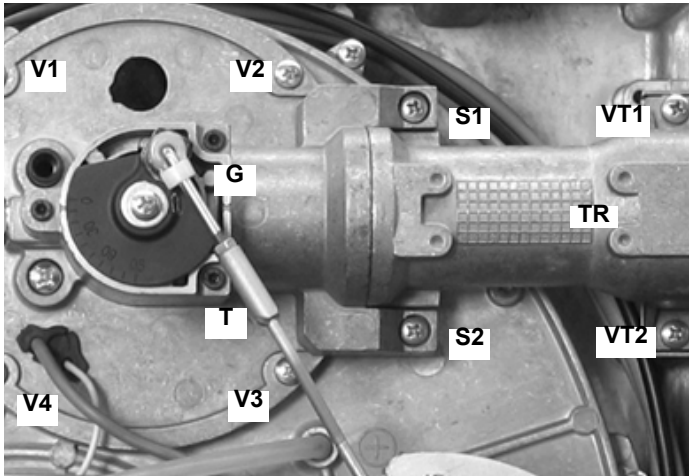
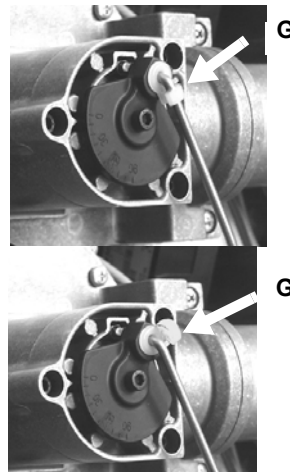
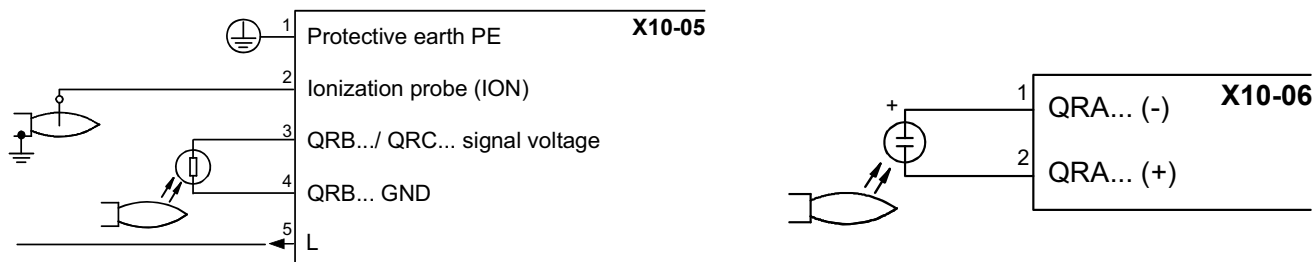

Fig. 46
Fig. 47
Fig. 51
- Check the ignition and detection electrodes, clean and adjust if necessary (see Fig. 47). In case of doubt, check the detection current according to the schemes in Fig. 51.
- 1 By means of the plastic hook **G**, unlock the rod **T** (Fig. 46) which drives the butterfly valve (Fig. 46 and Fig. 47), to disconnect it from its seat.
- 2 Remove the screws **V1**, **V2**, **V3**, **V4** and the screws **S1** and **S2** (Fig. 46).